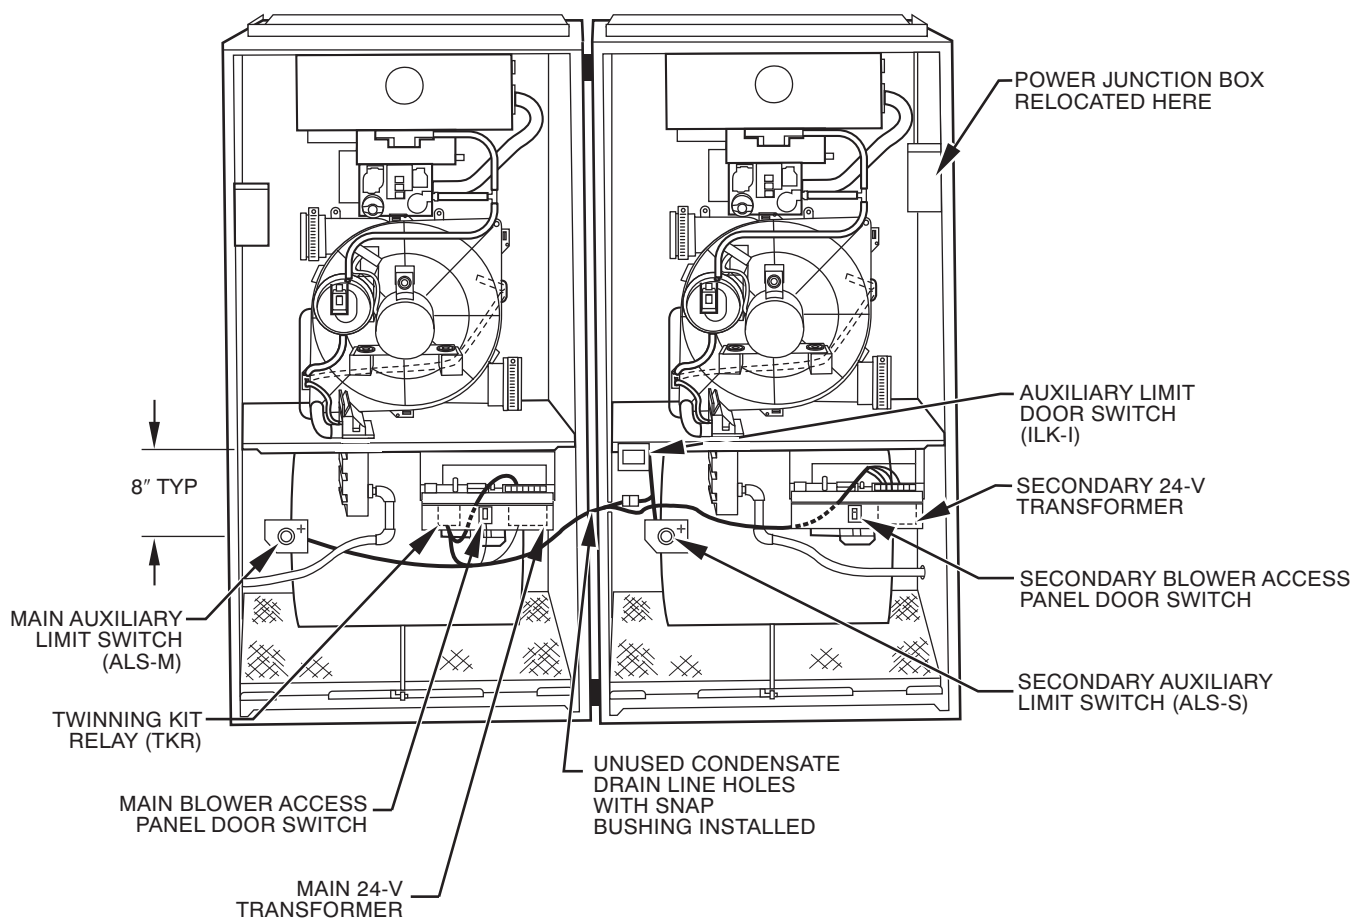

Fig. 31 - Twinning Kit Installed on Single-Speed and 2-Stage Condensing Furnaces (After Serial No. 2894A00001) Single-Speed Shown
- a. In the Side-by-Side, upflow and downflow applications, reference the furnaces from the front, as you would see them in the upflow application (See Fig. 31.) The LH furnace is the main furnace and the RH furnace is the secondary furnace.
- Drill 1/8-in. hole in blower housing 8 in. below blower shelf as shown in Fig. 31.
- Drill 7/32-in. hole in left side of RH furnace blower shelf for mounting door switch as shown in Fig. 31.